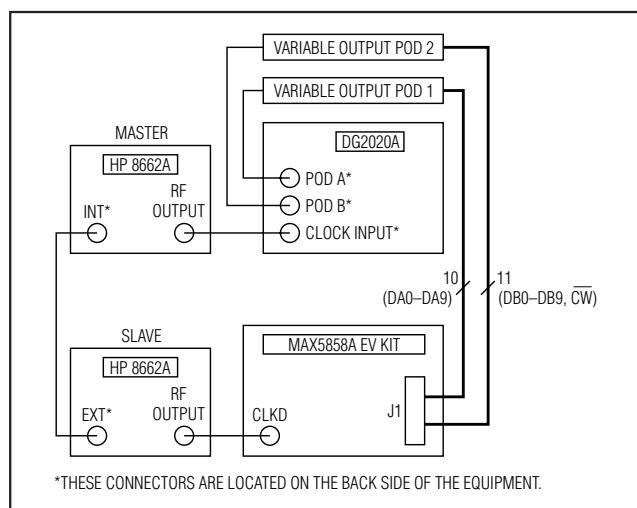

Figure 1. MAX5858A EV Kit Quick Start Setup for PLL Disabled Mode
The MAX5858A EV kit is a fully assembled and tested surface-mount board. Follow the steps below for board operation. **Do not turn on power supplies or enable signal generators until all connections are completed (Figure 1):**
- 8) Connect the RF OUTPUT of the master HP 8662A (data clock) to the clock input on the back side of the data generator (Sony/Tektronix DG2020A). (See Figure 1 for the equipment setup connections.)